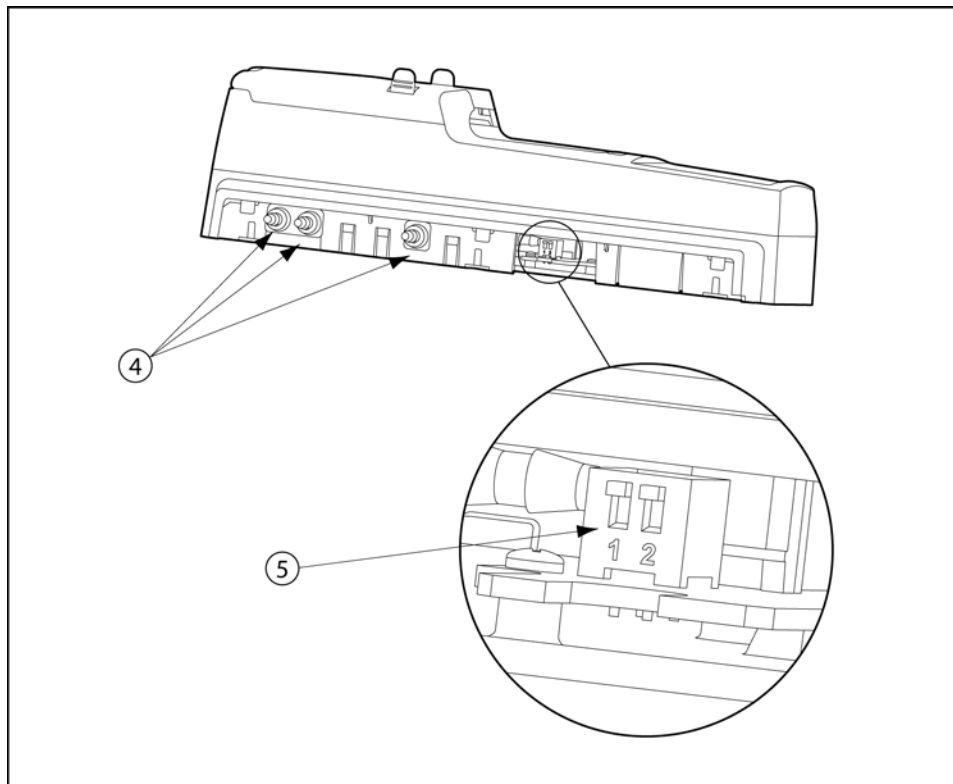

Figure 20. Changing Dip Switch Settings
5. Reconnect the GasAlertClip Extreme docking module. Refer to Figure 20.